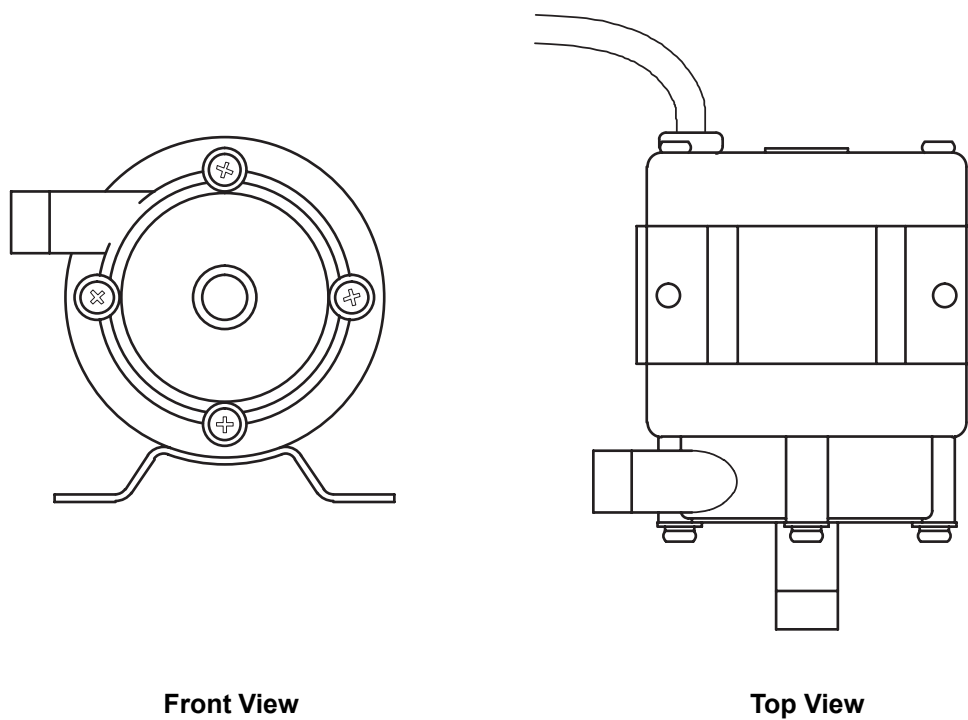

Figure 5-3, Recirculation Pump, Later Style (For S/N's 8724 and higher)
The circulation pumps are easily removed for cleaning and/or servicing. For the later style pump (Figure 5-3, Serial #'s starting at 8724 and above), proceed as follows:
- 1) Remove the four pump head assembly screws, (Figure 5-3). Be careful to note the orientation of the outlet nozzle for reassembly.